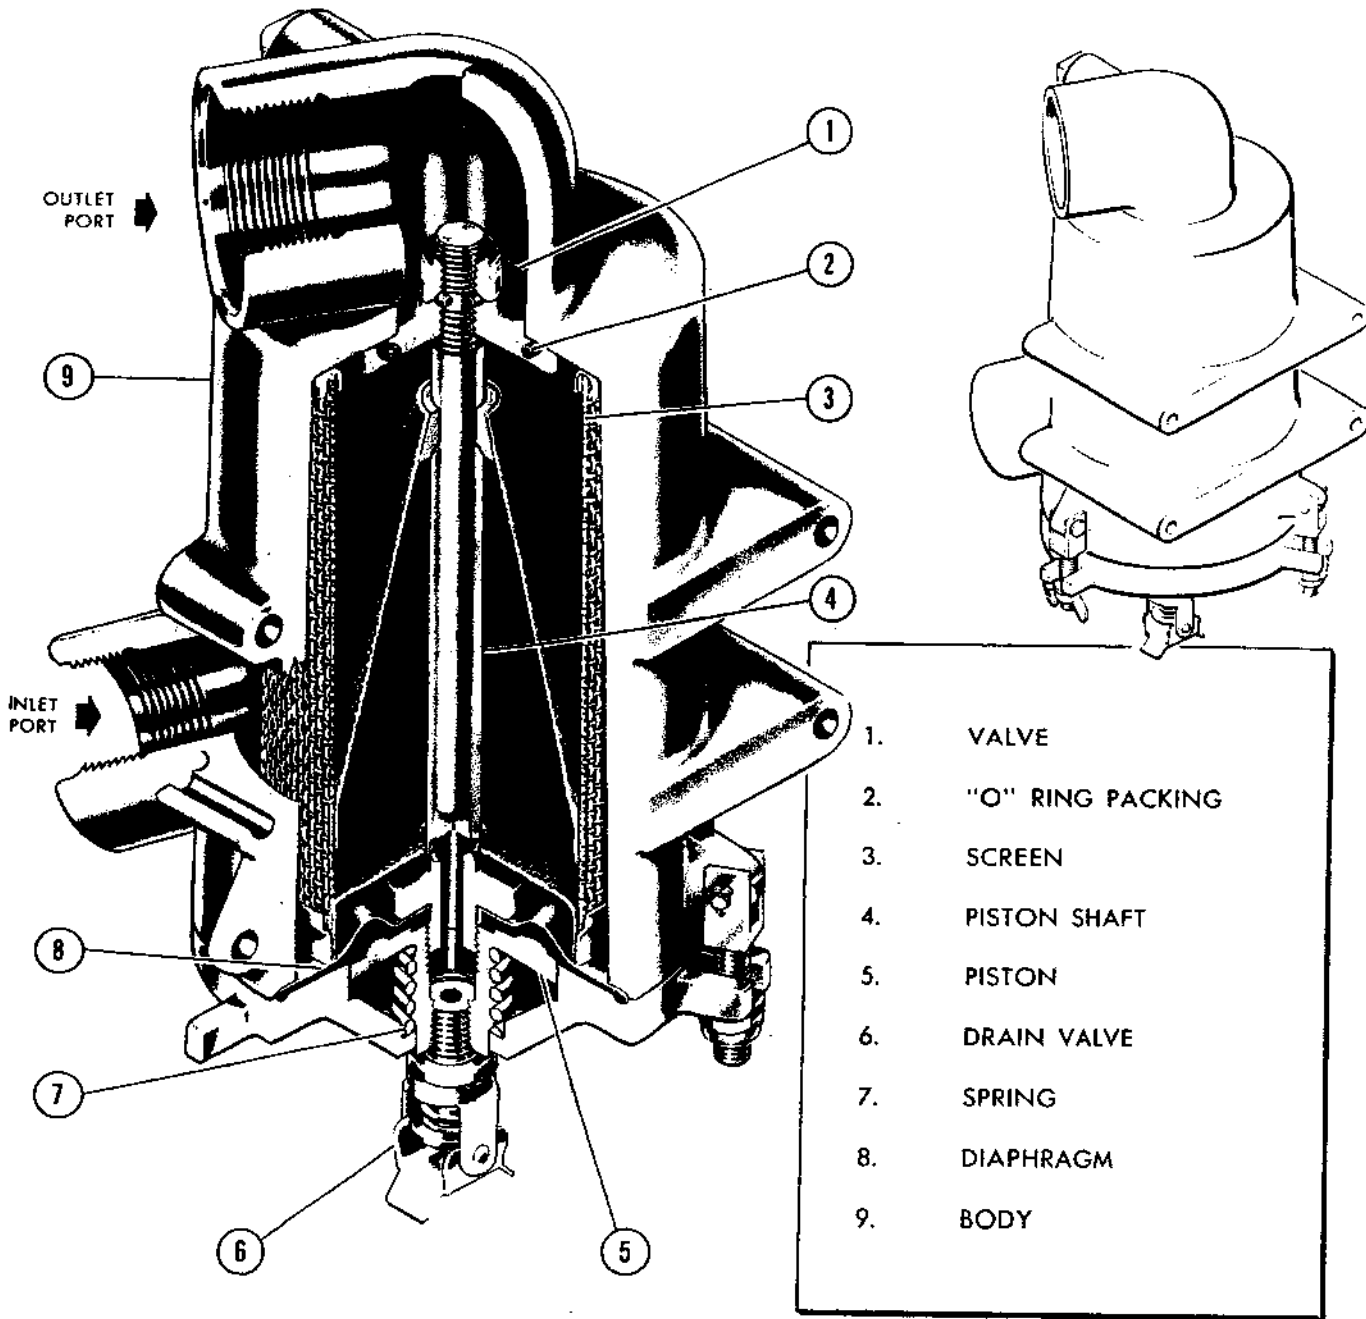

Figure 123D — Fluid Injection Shut-off Valve and Strainer
(2) REMOVAL OF FLUID INJECTION PUMP.
(3) INSTALLATION. — Reverse removal procedure. Before mounting a pump to a motor assembly, rotate the pump shaft by hand to ensure that it is free to move without binding.
f. FLUID INJECTION SHUT-OFF VALVE AND STRAINER. (See figure 123D.)
(1) DESCRIPTION. — The shut-off valve and strainer unit is located on the right side of the fuselage aft of station 238. Fluid pressure acting on a diaphragm opens the valve at 30 to 35 psi. The valve reseats at a minimum pressure of 3 psi. The fluid is strained prior to being released to the engine.
(2) REMOVAL.